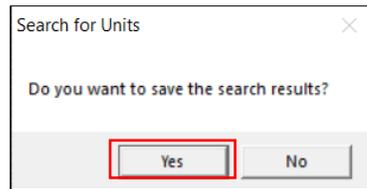

Figure 31: Saving Search Results
- If you see the green square in the first 1 by 1 square, hit the X button at the top of the “Search For Units” to return to the display menu. Another pop up will occur asking if you want to “save the search results”, left-click “Yes” (see figure 31).